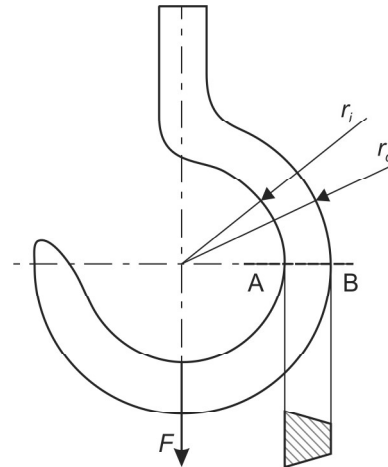

Fig. M1.15
b. The parallel sides of a trapezoidal cross section of a crane hook of capacity 50 kN are 100 mm and 60 mm. The depth of the section is 120 mm. The radius of curvature of inner fiber is 150 mm as shown in Fig. M1.15. Determine the stresses at the extreme members of the cross section of the crane hook. (15 Marks)